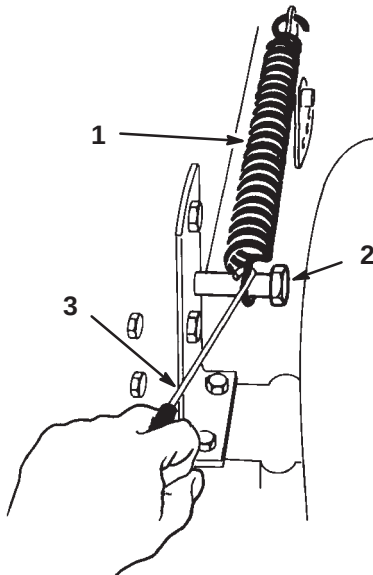

Figure 16
3. Remove the lift assist spring between the mower right side lift bracket and the retaining bolt (Fig. 16).
11. Move the height-of-cut lever into the D notch and hook the lift assist spring onto the retaining bolt for storage (Fig. 16).